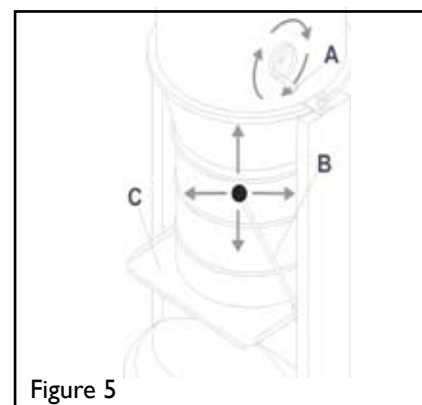
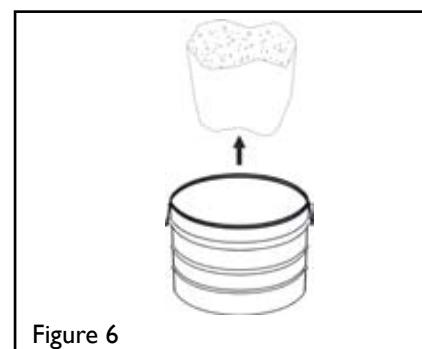

Figure 5
Figure 6
- Turn the filter shake lever on the side of the central unit [figure 5; (A)] firmly a few times.
- Release the lock lever of the dust canister (B) and bring it to the down position, thus making it possible to remove the dust canister from the central unit.
- Remove the full waste bag from the dust canister and check that there is no rubbish left at the bottom of the canister or the down draft hole. Clean the lifting plate (C) of the dust canister and ensure that the perforated plate in the dust canister is clean and correctly in place.
- Install the new, intact waste bag carefully into the dust canister so that the edges of the bag fold over the edges of the dust canister [figures 6 and 7].